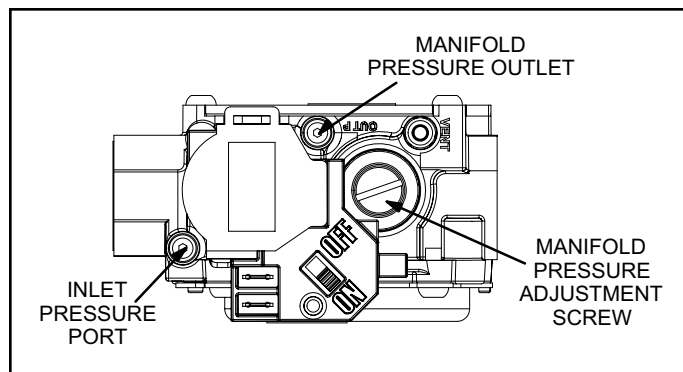

Figure 6. Gas Valve
3. Slide the gas valve switch to the "ON" position (see Figure 6).
2. Slide the gas valve switch to the "OFF" position (see Figure 6).
The manifold pressure can be measured by shutting off the gas, removing the pipe plug in the downstream side of the gas valve, and connecting a water manometer or gauge. **Under no circumstances should the final manifold pressure vary more than 0.3" w.c. from the above specified pressures.** To adjust the regulator, turn the adjusting screw on the regulator clockwise to increase pressure and input or counterclockwise to decrease pressure and input. See Figure 6 to assist in locating the regulator on the gas valve.
1. Slide the gas valve switch to the "OFF" position (see Figure 6).